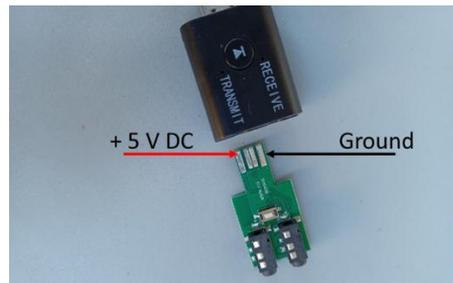

Fig. 9: Top plastic housing removed and +5V and Ground terminals identified.
Step 4:b Remove the top plastic housing from the Bluetooth Dongle, then identify the terminals for +5V and Ground of the module. Refer Figure 9.